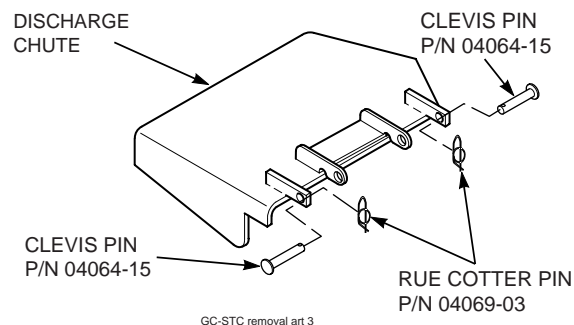

FIGURE 4-3
7. Re-install the side discharge chute to the opening on the cutter deck. Replace the two outside mounting bolts on the discharge chute with the clevis pins (p/n 04064-15) and rue cotter pins (p/n 04069-03). See Figure 4-3.